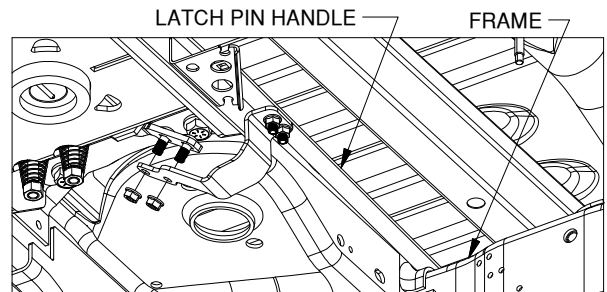

Figure D3: Looking back at driver side of center section.
3. **Install the latch pin handle.** Beginning under the vehicle, "thread" the end of the handle in front of the brake lines and over the frame on the driver side. Attach the handle to the latching mechanism over the 3/8" carriage bolts with two 3/8" locking flange nuts, see Figure D3. Be sure that the handle is in the proper position and that it does not interfere with any other components of the vehicle. Torque the nuts to 30 ft. lbs. to secure the handle.